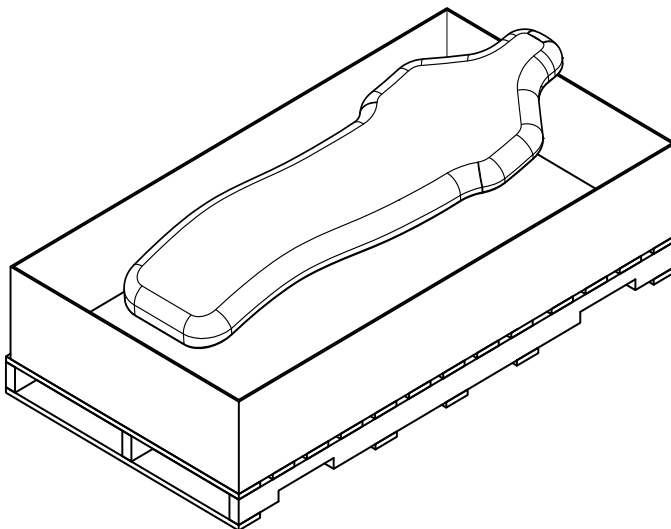

Fig 4.2
2. Use safe lifting procedures to free the product from the container, and remove all packing material from shipping container (Fig 4.2, 4.3).